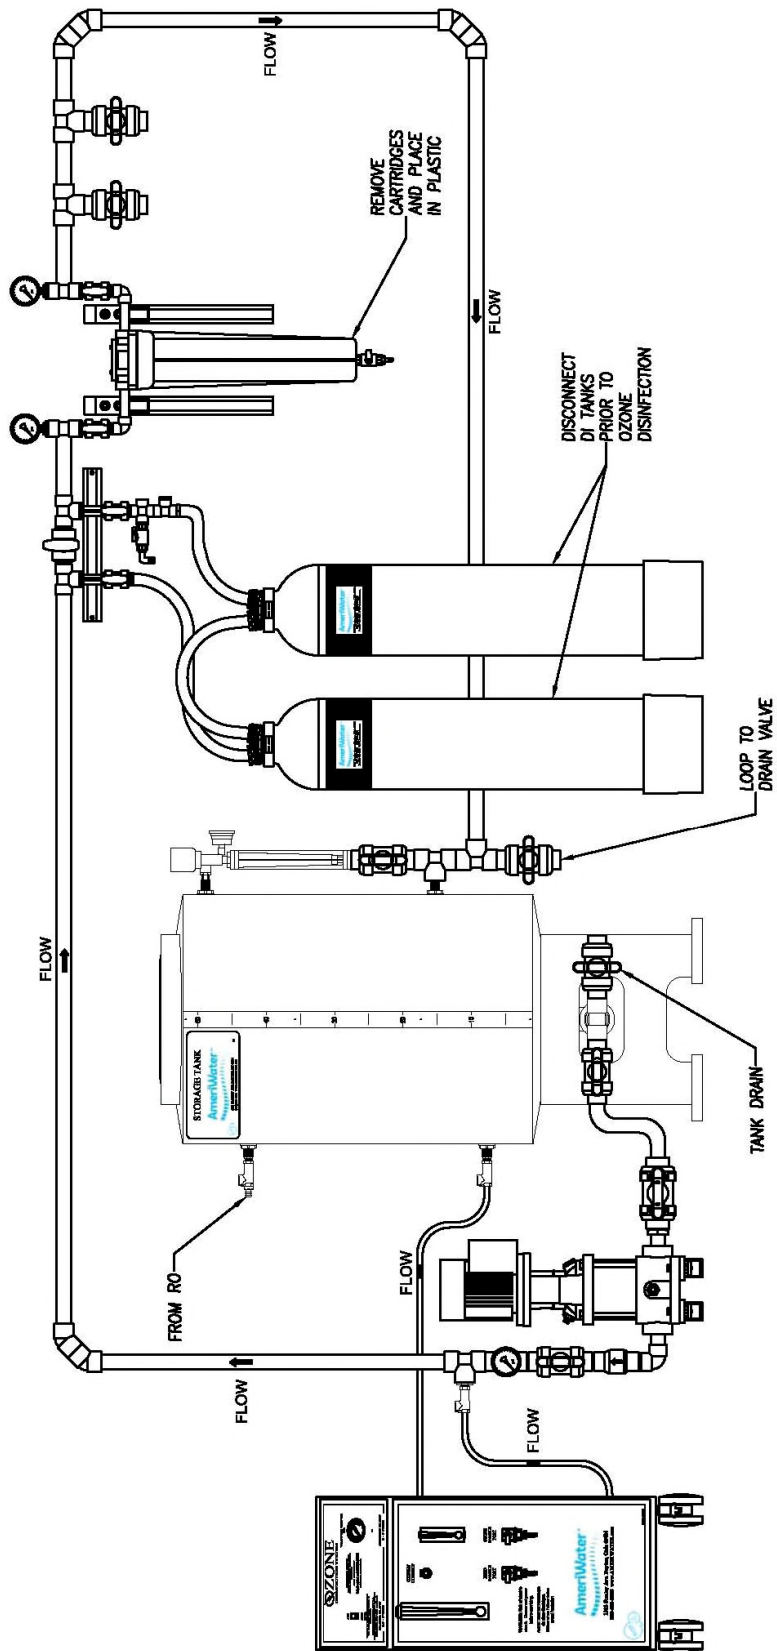

Figure 4C
4. Connect the ozone inlet hose to the quick connect fitting on the pump discharge (See Figure 4C). Connect the ozone outlet hose to the quick connect fitting on the storage tank. The quick connect fittings are gender-oriented to prevent incorrect connections.